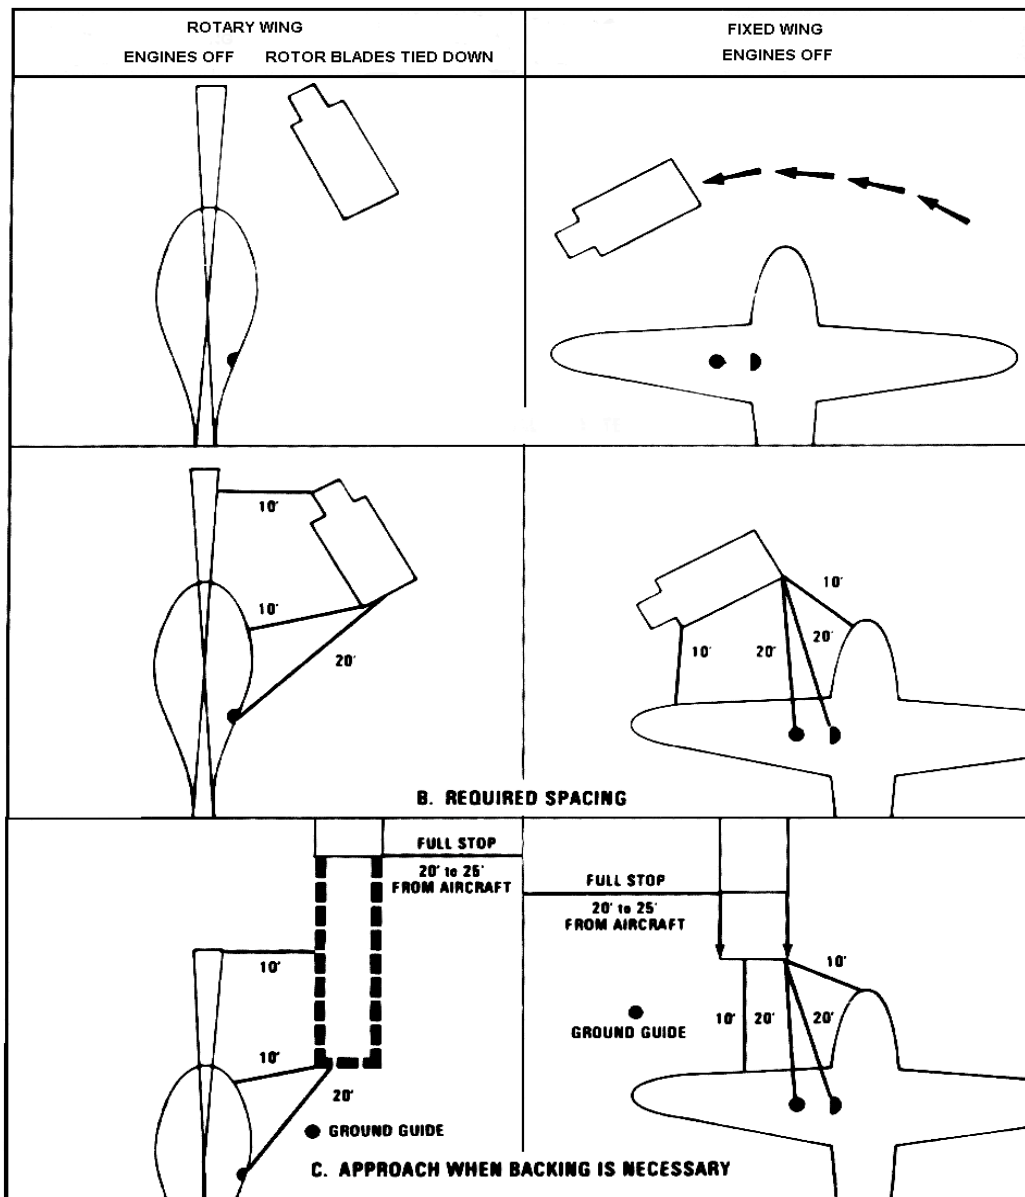

Figure 16-1. Positioning tank vehicle for refueling aircraft
A, Figure 16-1. Do not drive the refueler directly toward the aircraft because brake failure could cause a serious accident.
- Minimum distances. Keep a distance of at least 10 feet between the refueler and the aircraft. There must be at least 10 feet between the refueler and rotor blades of a helicopter. Keep a distance of at least 20 feet between the exhaust pipe of the pump engine (or truck engine) and the aircraft fill port and tank vent. See B, Figure 16-1.
- Ground guides. If the refueler can be driven into position without backing, do so. If the refueler must be backed toward the aircraft, bring the truck to a full stop 20 to 25 feet away from the aircraft or its rotor blades. Have another soldier act as a ground guide. Follow his signals to guide the final backing approach until he stops the refueler at the proper distance from the aircraft and its fill port or vent. See C, Figure 16-1.